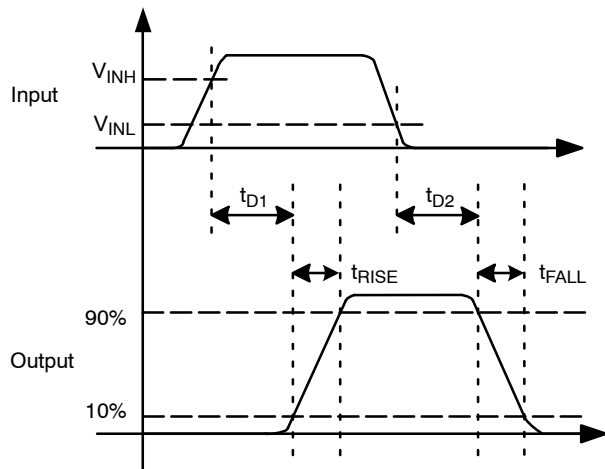

Figure 7. Non-Inverting (EN HIGH or Floating)
12. See Timing Diagrams of Figures 7 and 8.